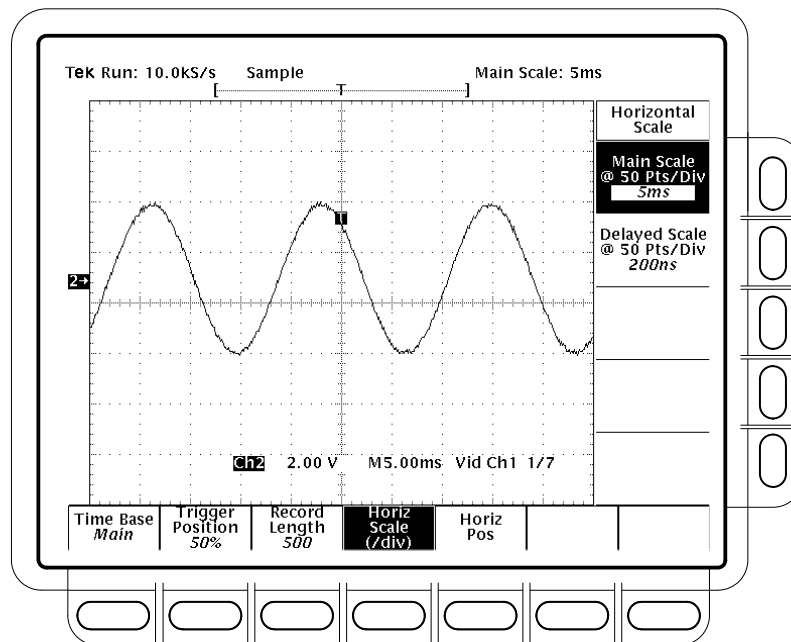

Figure 1-32: 60 Hz Rejection Test Setup Signal
- Adjust the signal generator for three vertical divisions of 60 Hz signal. See Figure 1-32. The signal will not be triggered. That is, it will run free.